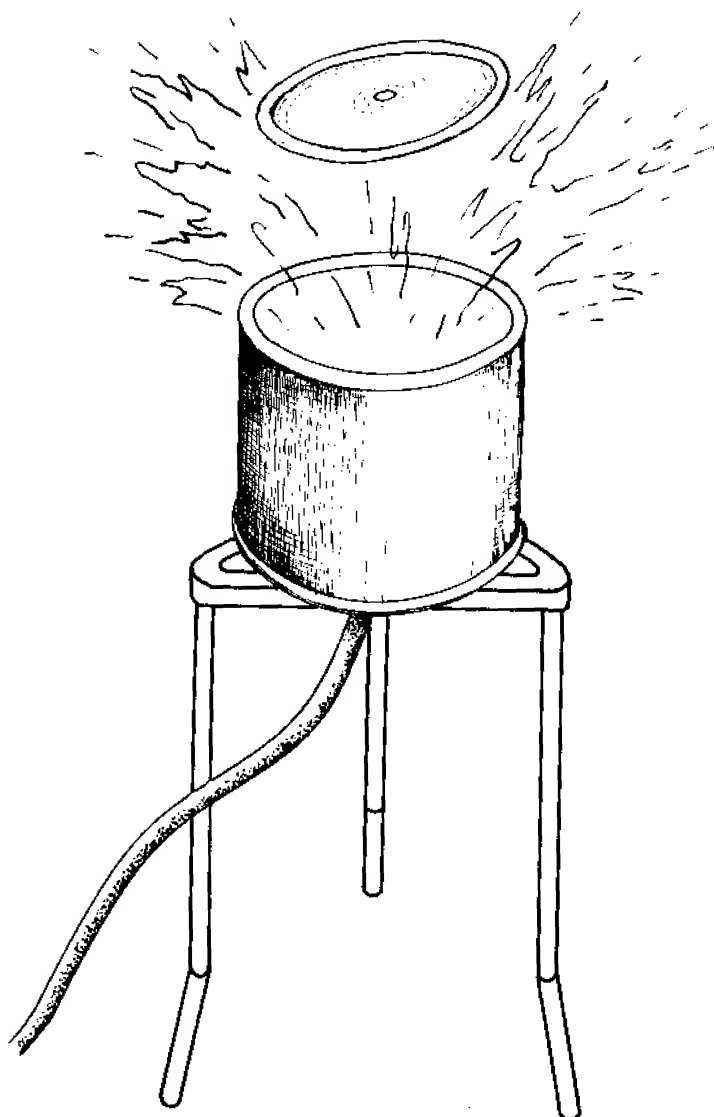

Figure 14.3 The explosion
5. When the mixture explodes, note the time on your stop-watch or stop-clock (see Figure 14.3).